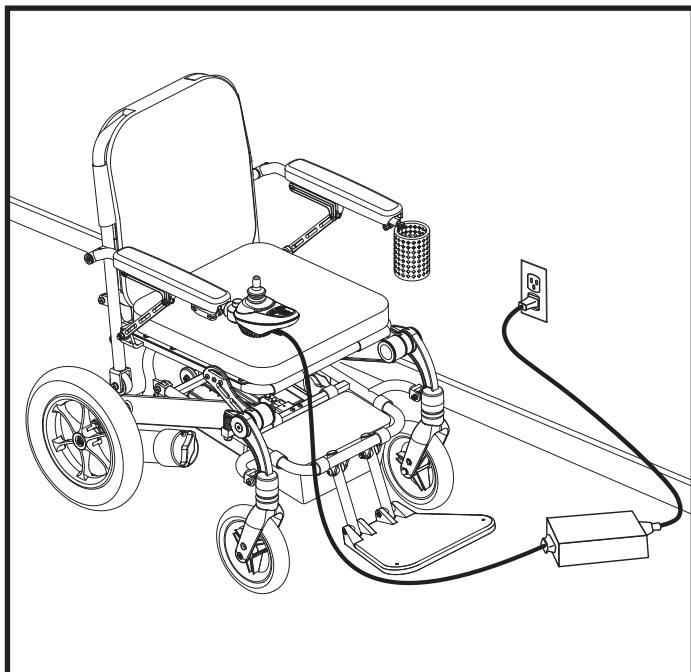

Figure 13. Battery Charging using the Off-board Charger
4. Plug the off-board charger into the off-board charger/programming socket of the controller. **See figure 13.**